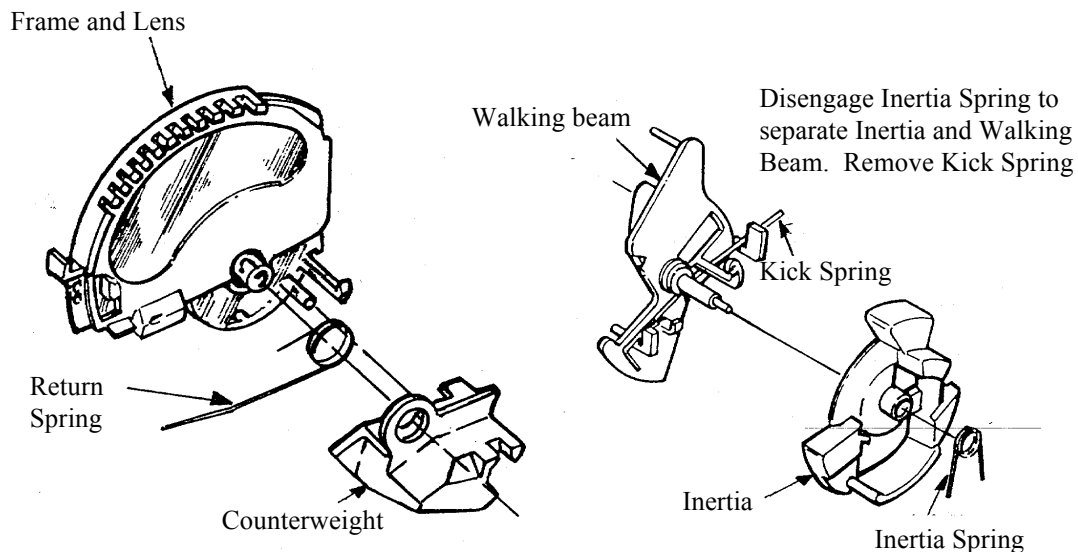

Fig. 4-19b
**NOTE:** The Quintic Assembly may be further disassembled as shown in Figure 4-19b. The Walking Beam/Inertia Assembly may be further disassembled as shown in Figure 4-19c.